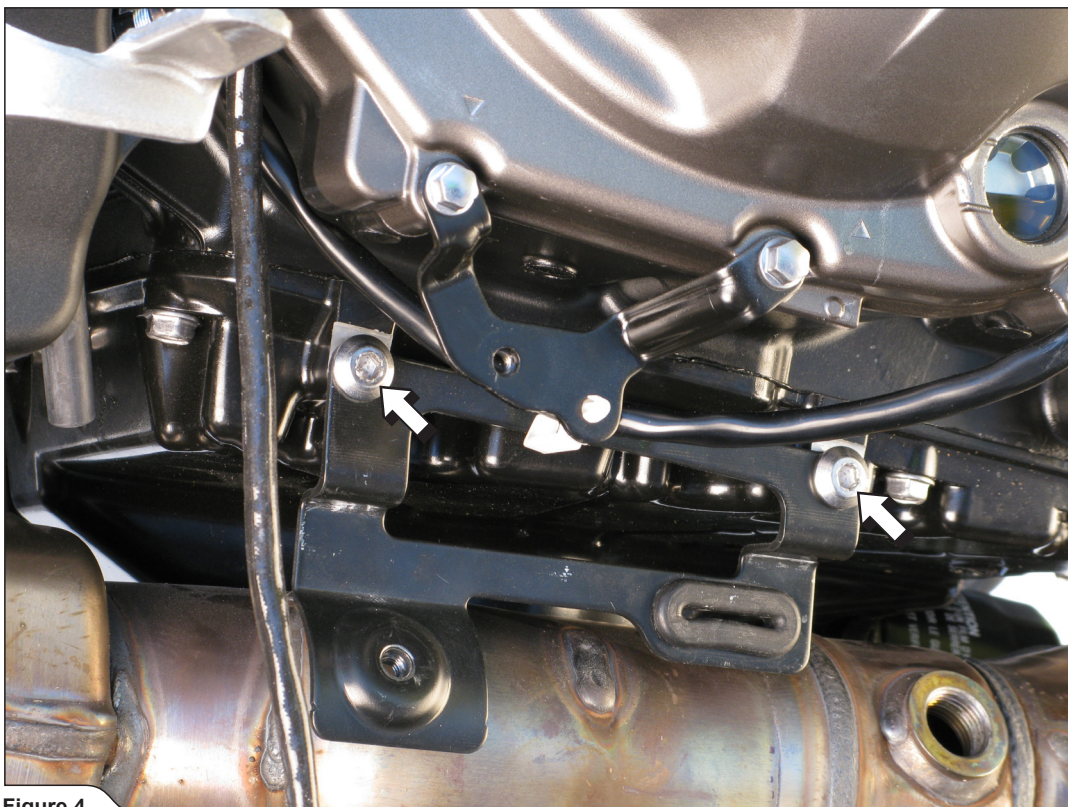

Figure 4
5. **For Z1000 model only:** unscrew the marked bolts and remove the heat shield's bracket off the motorcycle (**Figure 4**).